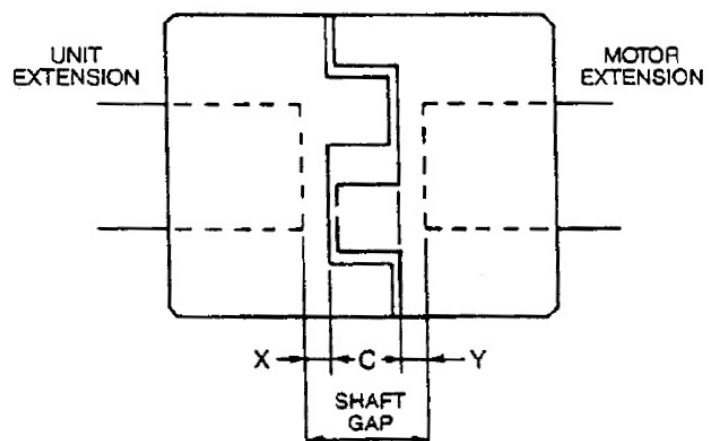

Figure 9.
Your Mixer drive should have had the C-Face motor adapter mounted at the factory. If it was not, refer to figure 9 and proceed as follows.
4. Refer to figure 9 and table 5 on the following page. Place the coupling halves on the unit input (high speed) shaft and motor shaft and set the coupling overhang distances as shown in Table 5. Tighten the setscrews. The reducer hub setscrew can be tightened through the access hole in the C-Face adapter.